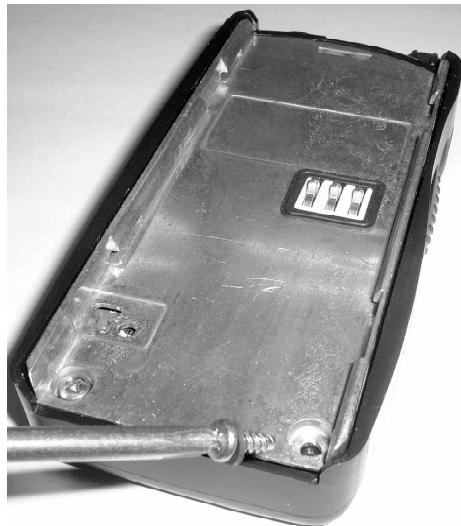

Figure 2-10
5. Tighten the two (2) screws at the bottom of rear diecast using a screwdriver (see “Figure 2-10”).